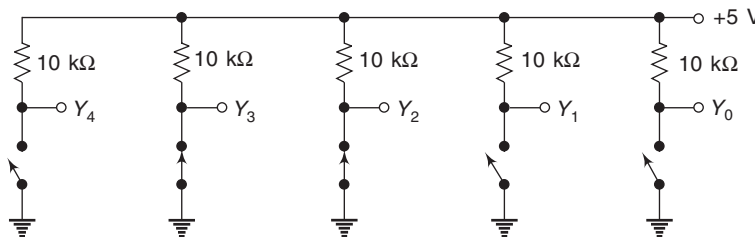

Fig. 1.17 A 5-bit Switch Register.
18. Figure 1.17 shows a 5-bit switch register. By opening and closing the switches you can set up different binary numbers. HIGH output voltage stands for binary 1 and LOW output voltage for binary 0. What is the number stored in switch register?